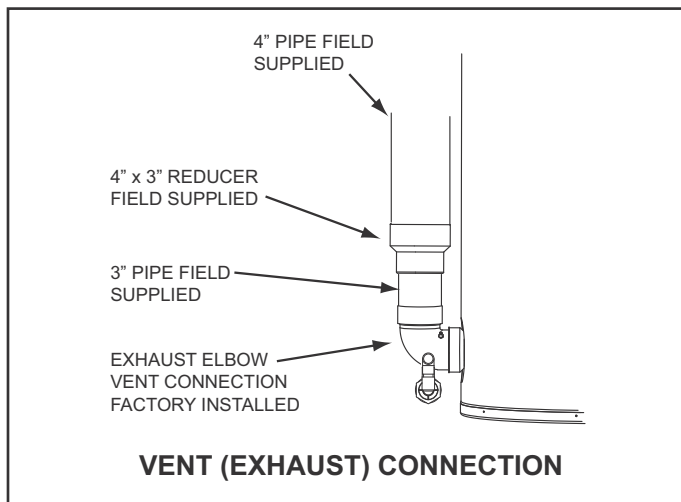

Figure 18
11. If installing 4 inch pipe transition to 3 inch pipe at the exhaust elbow on the water heater as shown in Figure 18. The field installed 3\" pipe between the exhaust elbow and the 4\" x 3\" reducer coupling should be 18 inches (45 cm) or less in length.
12. If installing 4 inch vent pipe transition to 3 inch pipe at the exhaust elbow on the water heater as shown in Figure 18 on page 25. The field installed 3" pipe between the exhaust elbow and the 4" x 3" reducer coupling should be 18 inches (45 cm) or less in length.